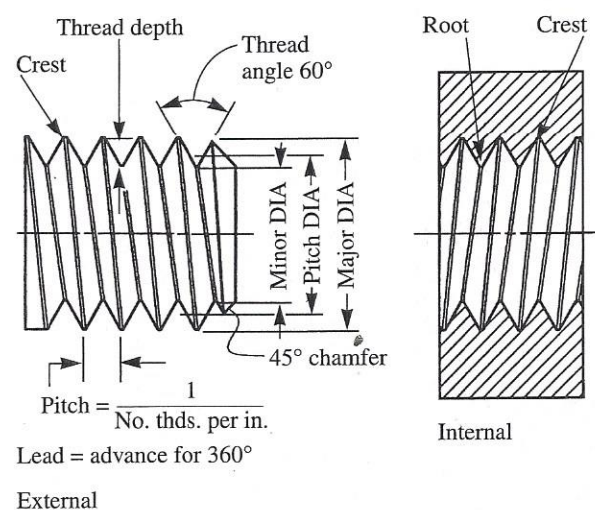

Figure 3-17. Thread terminology for external and internal threads.
Figure 3-17 illustrates some of the various parts of a thread. There are several types, or series, of threads of commercial importance. Only three are of significance for the purpose of this text. The first type are the coarse-thread series designated **Unified National Coarse (UNC)** and **National Coarse (NC)**. These are for general use where they are not subjected to vibration.